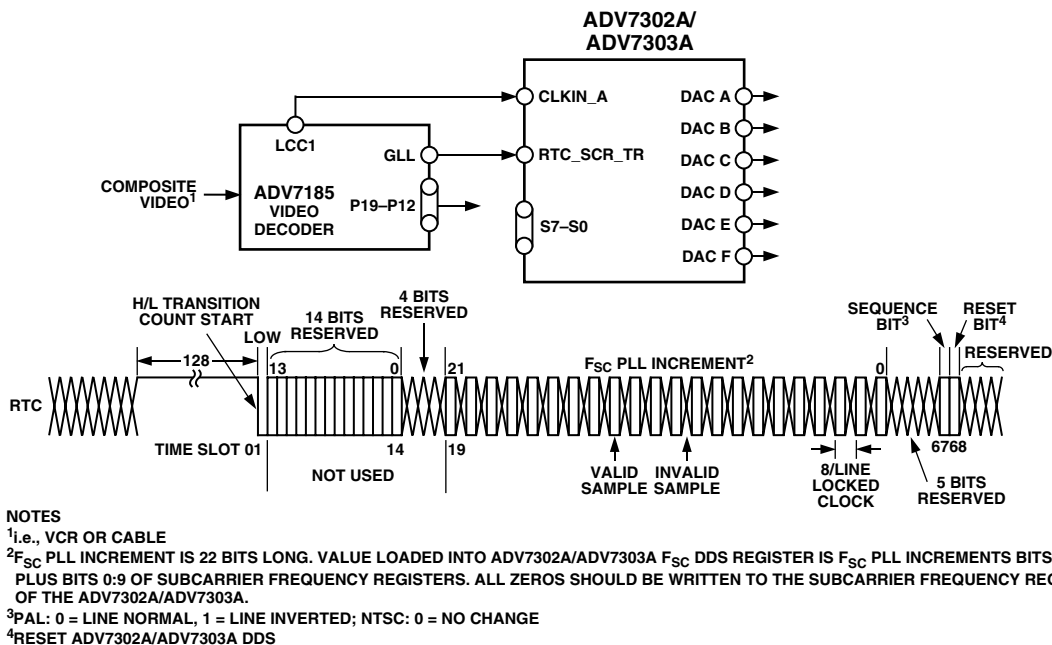

Figure 29. RTC Timing and Connections
- In RTC Mode, the ADV7302A/ADV7303A can be used to lock to an external video source. The Real-time Control Mode allows the ADV7302A/ADV7303A to automatically alter the subcarrier frequency to compensate for line length variations. When the part is connected to a device that outputs a digital data stream in the RTC format (such as a ADV7185 video decoder, see Figure 29), the part will automatically change to the compensated subcarrier frequency on a line-by-line basis. This digital data stream is 67 bits wide and the subcarrier is contained in Bits 0 to 21. Each bit is two clock cycles long. 00h should be written into all four Subcarrier Frequency Registers when using this mode.